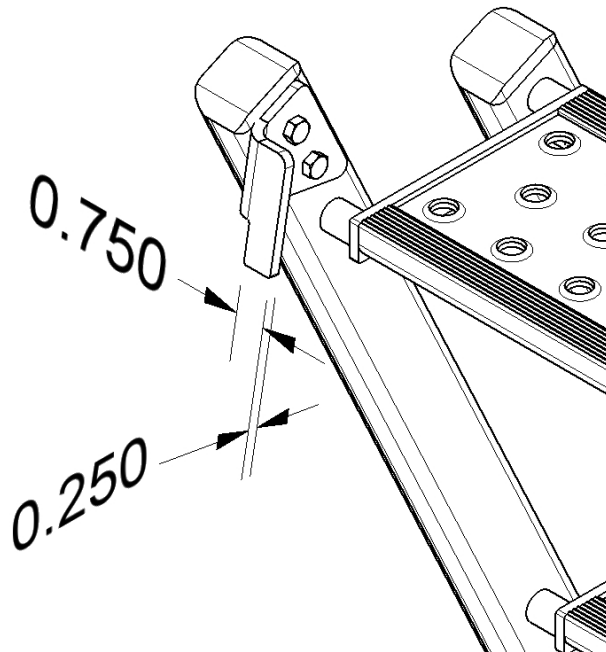

Fig. 3
2. Install holes or slots per the dimensions shown in Fig. 3 where you have marked.